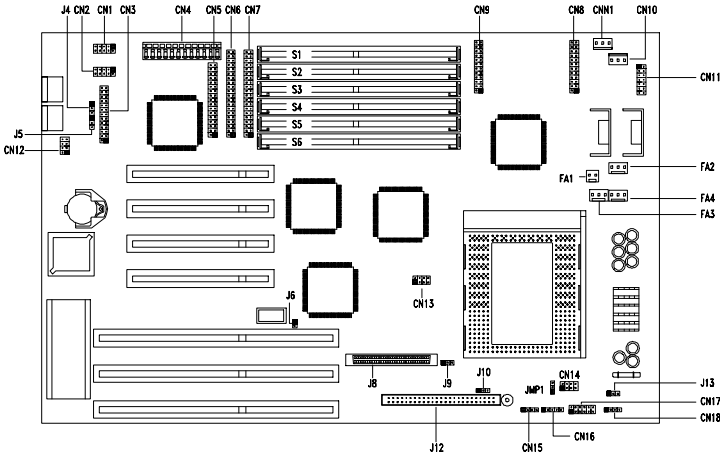

Figure 1-2 Jumper and Connector Locations
Figure 1-2 shows the jumper locations on the system board. The blackened pin on a jumper represents pin 1.
4. Locate CN12 on the system board. See Figure 1-2.